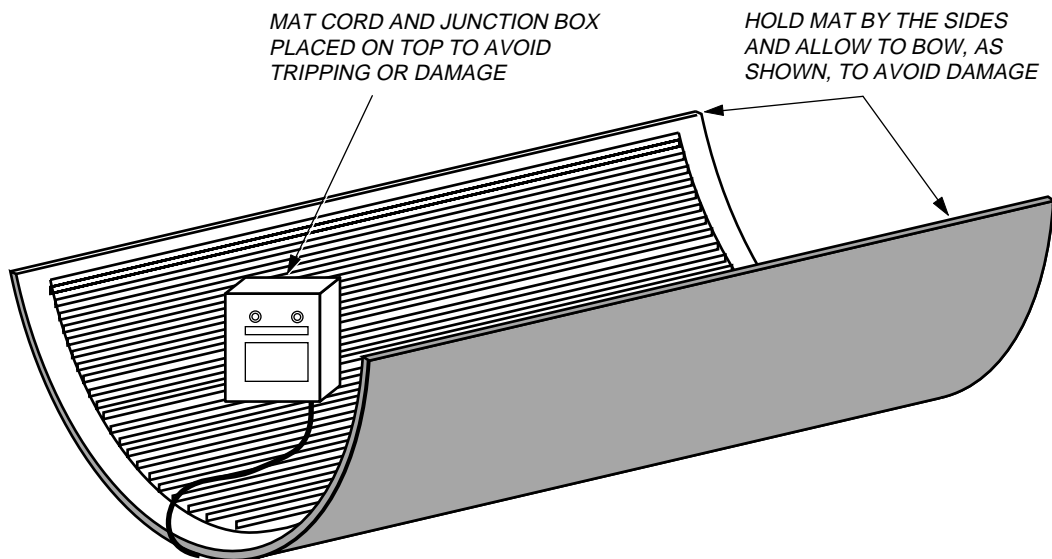

Figure 4-19 Handling a Safety Mat
3. Place AEC base approximately 0.6 m (2 ft) behind ArcWorld III-1000 cell (see Figure 4-19).
4. Place operator station outside fence to front of positioner (see Figure 4-19).
Safety mats require special handling to prevent damage to the internal electrode assembly. Grasp the mat by its long edges and lift, while causing a slight bow down the length of the mat (see Figure 4-19). This prevents the mat from kinking lengthwise. Place the mat cord and junction box on top of the mat during handling to reduce tripping hazards. To install the safety mats, proceed as follows: